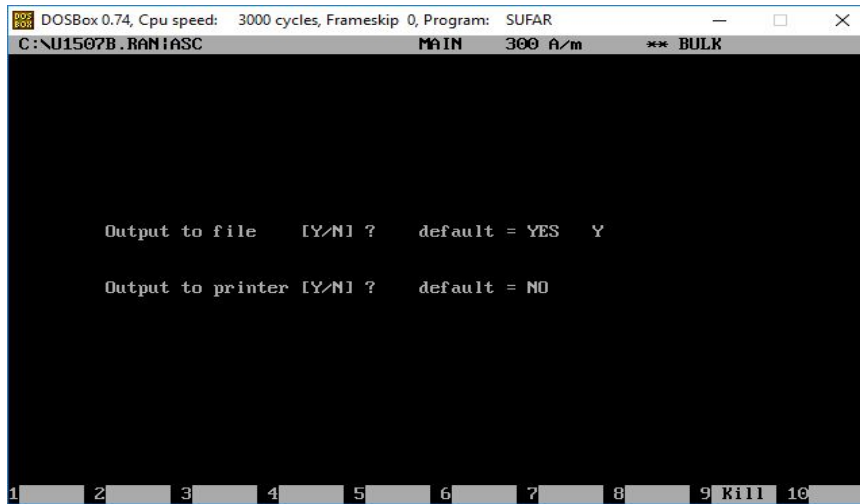

Figure 17 Sufar display asking user to choose to output data to a file and if they wish to print.
14. Sufar will now display: Output to file (Y/N)? (Figure 17).
15. User is now prompted: Output to printer (Y/N)? (Figure 17). Pressing return will trigger the default response of N (no).